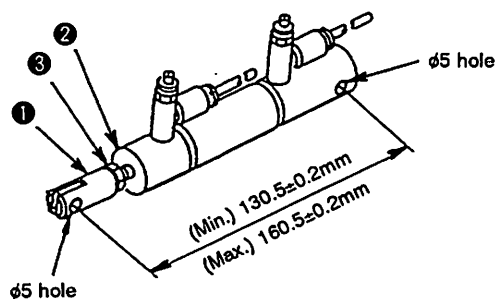

Fig. 5-22-1
At the time, the intermediate presser lifting stroke is set to 20 mm (at the time of delivery). (Fig. 5-22-1)
<ul style="list-style-type: none"> Loosen shaft nut ③ of intermediate presser cylinder ②, and adjust the screwing depth of the intermediate cylinder knuckle ① referring to the "STANDARD ADJUSTMENT (22)." After making the adjustment, securely tighten nut ③ and intermediate cylinder knuckle ①. (Fig. 5-22-1) 	<ul style="list-style-type: none"> When the distance exceeds 130.5 ± 0.2 mm: The intermediate presser lifting stroke is less than 20 mm. When the distance is less than 130.5 ± 0.2 mm: The intermediate presser will fail to be lifted. The round cornered section in the top end of the intermediate presser bar may enter the intermediate presser bar lower bushing while the intermediate presser goes up, resulting in an oil leak.